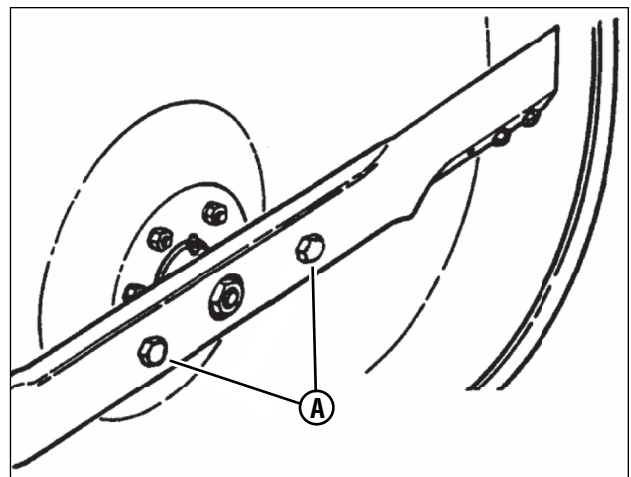

Figure 20: Checking blade bolt torque
4. Check the torque of the blade mounting bolts (A, Figure 20). As necessary, torque to 30 to 40 ft. lbs.